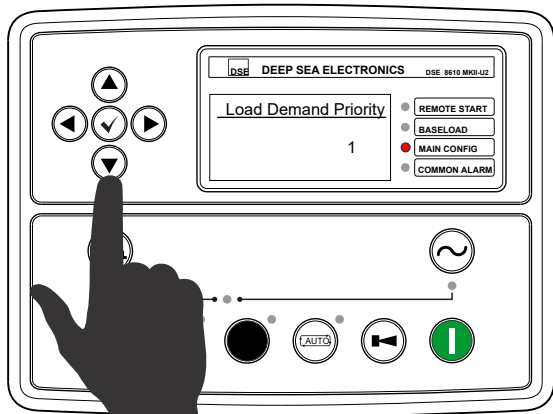

Figure 79. Load Priority Page
4. Using the down arrow button, scroll down to the **load demand priority** page (Figure 79).
5. On generator #1 (master), set the priority to 1 (Figure 79). On generator #2, set the priority to 2. Repeat this procedure for all the remaining generators.